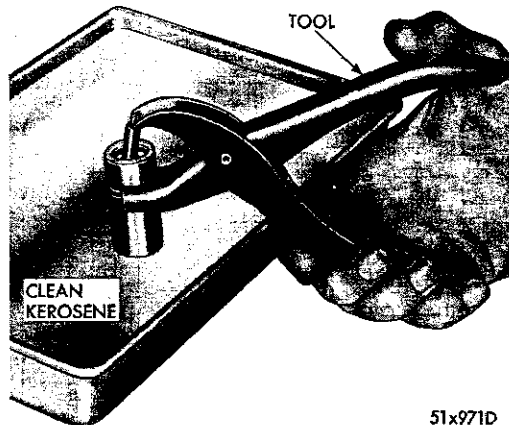

Fig. 19—Testing Tappet Using Tool C-3160
- (1) Fill a pan with clean kerosene.
- (2) Remove the cap from the plunger and completely submerge the tappet in an upright position.
- (3) Allow the tappet to fill with kerosene, remove the tappet, and replace the cap.
- (4) Hold the tappet in an upright position and insert the lower jaw of pliers, Tool C-3160, in the groove of the tappet body (Fig. 19).
- (5) Engage the jaw of the pliers with the top of the tappet plunger. Test leakdown by compressing the pliers. If the plunger collapses almost instantly as pressure is applied, disassemble the tappet, clean and test again. (Fig. 19)
- (6) If the tappet still does not operate satisfactorily after cleaning, install a new tappet assembly.